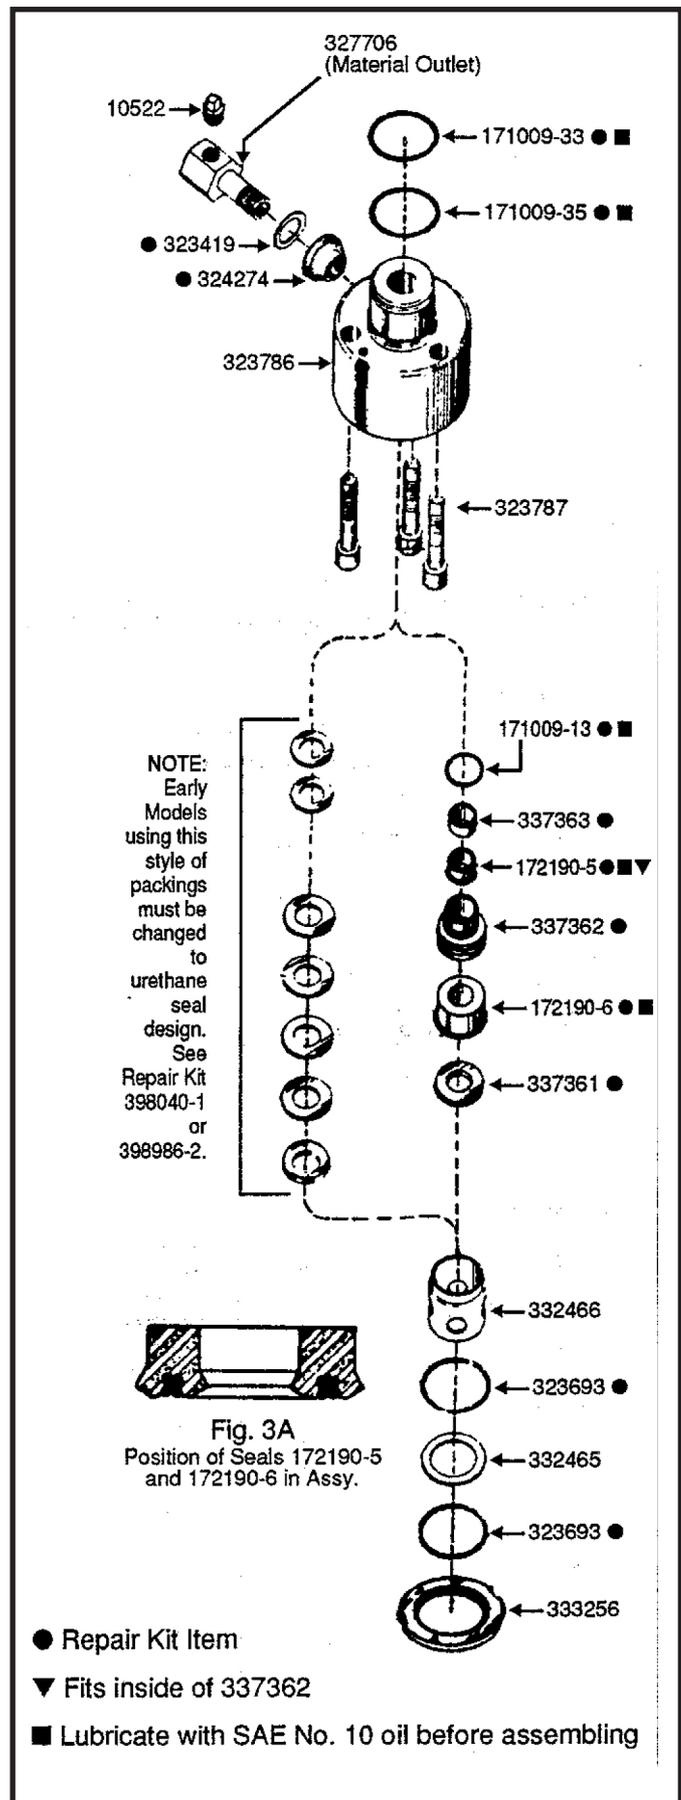

Figure 3: Body and Packing Group
C. SERVICING BODY & PACKING GROUP: (Figure 3)
393040-1 For Body and Seal Group (Figure 3)
PARTS LIST • Body and Packing Group (Figure 3)